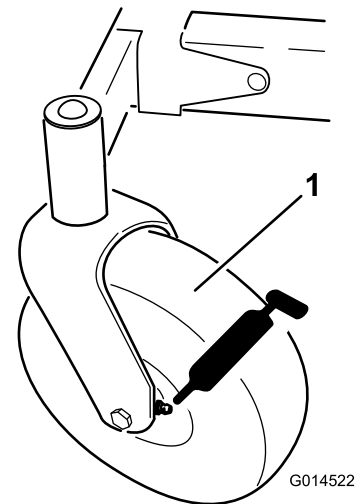
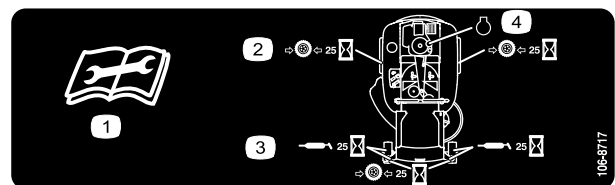

Figure 30
Figure 31
3. Clean the grease fittings (Figure 30 and Figure 31) with a rag.
4. Connect a grease gun to each fitting (Figure 30 and Figure 31).